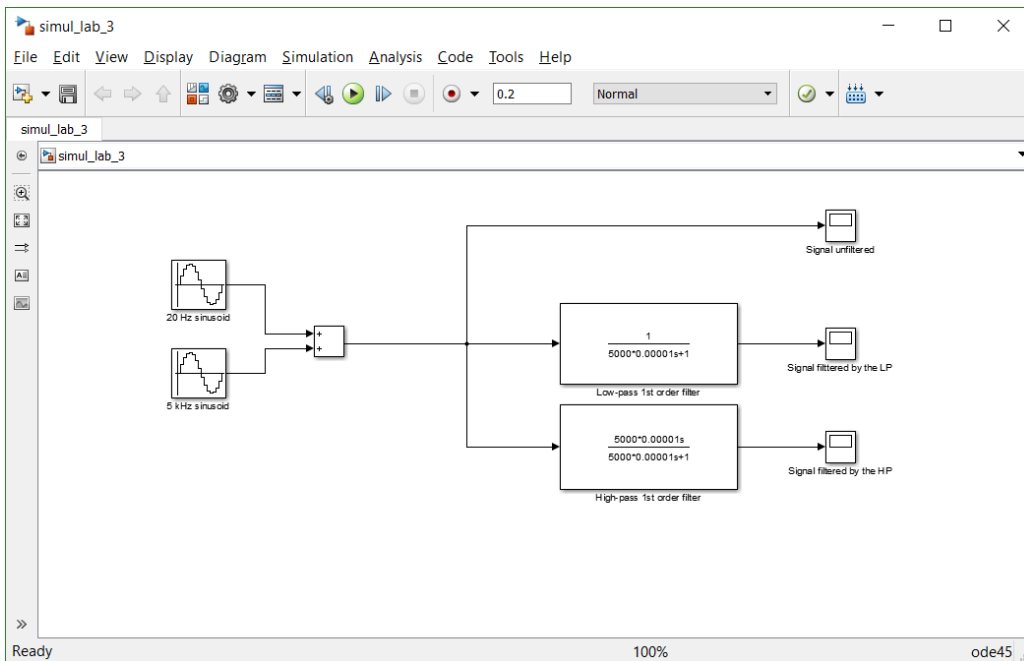

Figure 3.4: File `simul_lab3.mdl`.
- Use SIMULINK file `simul_lab3.mdl` (figure 3.4) to train the filtering process. To run this simulation, click the ▷ icon. Try changing the amplitude and frequency of the sinusoids, and the cut-off frequency of the filter.